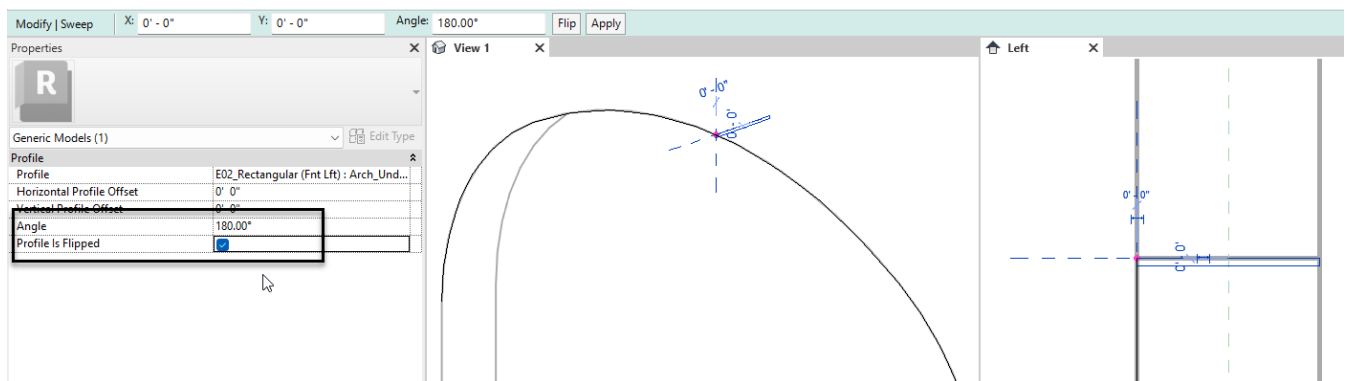

Figure 63—Adjust the profile
- ⇒ On the Properties palette, set the Angle to: **180°** and then check the Profile is Flipped checkbox (see Figure 63).